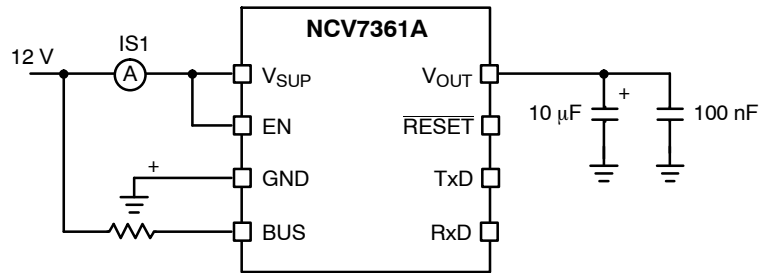

Figure 6. Test Circuit for Supply Current I_{SN1}
4. See Figure 6 for test setup.